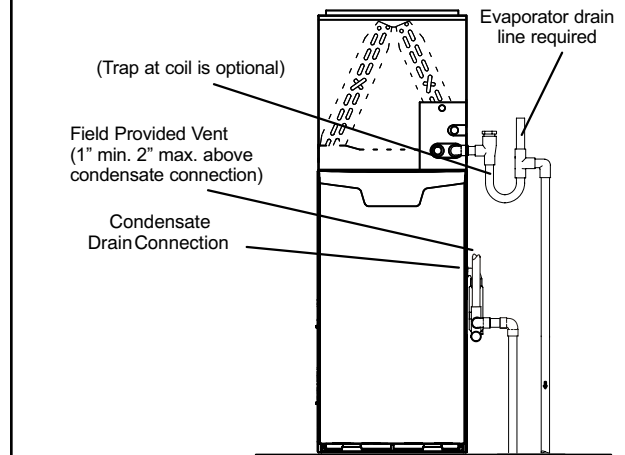
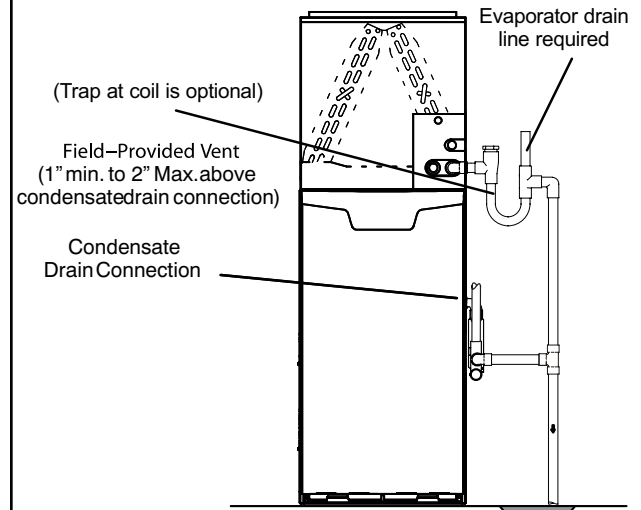
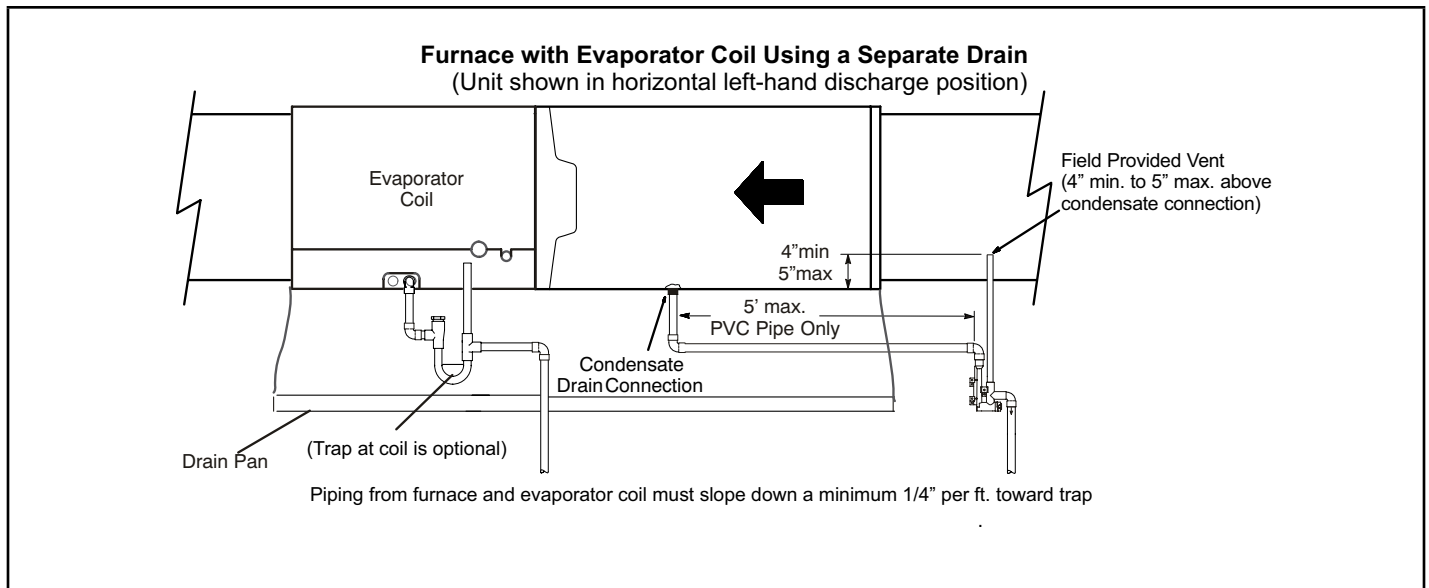

FIGURE 52
FIGURE 53
FIGURE 54
- 3 - Install the cap over the clean out opening at the base of the trap. Secure with clamp. See FIGURE 54.
- 5 - FIGURE 52 and FIGURE 54 shows the furnace and evaporator coil using a separate drain. If necessary the condensate line from the furnace and evaporator coil can drain together. See FIGURE 53 and FIGURE 55. **Upflow furnace (FIGURE 53)** - In upflow furnace applications the field provided vent must be a minimum 1" to a maximum 2" length above the condensate drain outlet connection. Any length above 2" may result in a flooded heat exchanger if the combined primary drain line were to become restricted. **Horizontal furnace (FIGURE 55)** - In horizontal furnace applications the field provided vent must be a minimum 4" to a maximum 5" length above the condensate drain outlet connection. Any length above 5" may result in a flooded heat exchanger if the combined primary drain line were to become restricted.